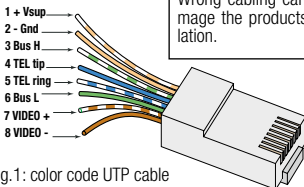

fig.1: color code UTP cable
- UTP cable with RJ45 connectors at both sides (color code, see fig.1).